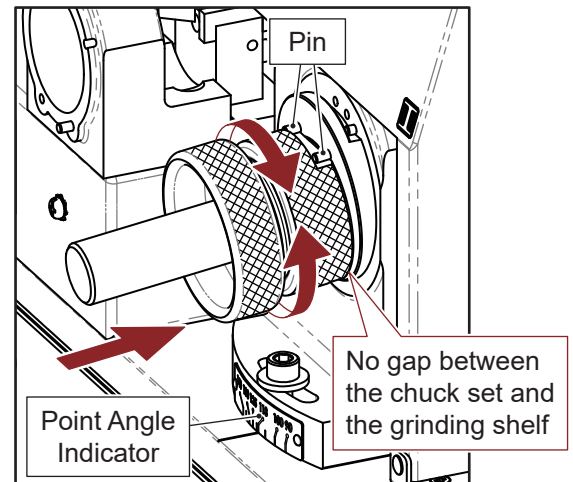

Fig. 9-1
1. Cutting Lip Grinding (Fig. 9-1)
- ① Insert the chuck set into the cutting lip grinding shelf (I), align the slot of clamping-nut to the two pins on the grinding shelf, push the chuck set gently and turn it clockwise and counterclockwise until the grinding noise stops.
- ② Take the chuck set out, turn it to the other side and grind the drill in the same way.